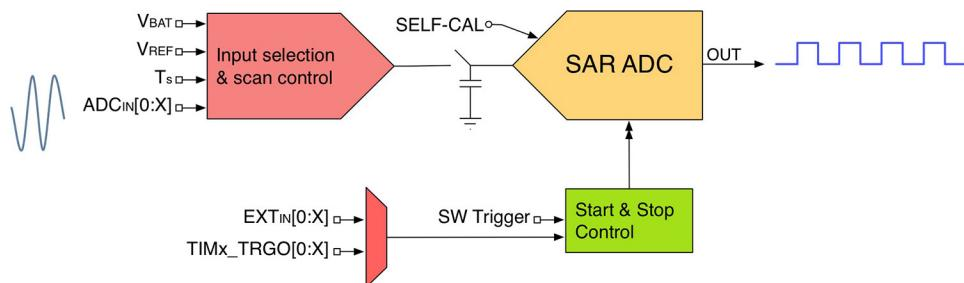
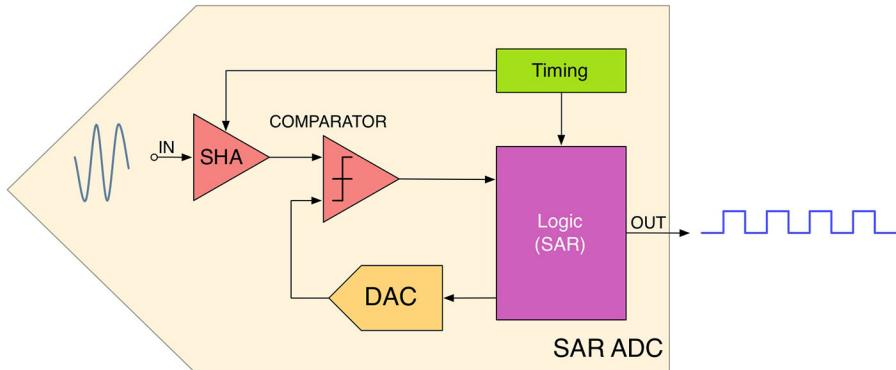
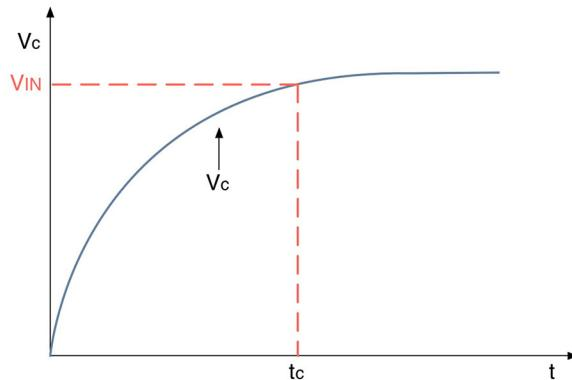

Figure 12.1: The simplified structure of an ADC
Figure 12.2: The internal structure of a SAR ADC
Figure 12.4: The effect of the ADC resistance on the analog signal source
Figure 12.1 schematizes the structure of the ADC2. An *input selection and scan control unit* performs the selection of the input source to the ADC. Depending on the conversion mode (single, scan or continuous mode), this unit automatically switches among the input channels, so that everyone can be sampled periodically. The output from this unit feeds the ADC.
Figure 12.1 also shows another important part of the ADC: the *start and stop control* unit. Its role is to control the A/D conversion process, and it can be triggered by software or by a variable number of input sources. Moreover, it is internally connected to the TRGO line of some timers so that time-driven conversions can be automatically performed in DMA mode. We will analyze this important
2Figure 12.1 is a simplified representation of the ADC. Since the ADC implementation can differ a lot among the several STM32 families, here we are going to consider a simplified view that clearly describes how the ADC unit is designed.
**Figure 12.2** shows the main blocks forming the SAR ADC unit shown in **Figure 12.1**. The input signal goes through the SHA unit. As you can see in **Figure 12.1**, a switch and a capacitor are in series with the ADC input. That part represents the *Sample-and-Hold* (SHA) unit shown in **Figure 12.2**, which is a feature available in all ADCs. This unit plays the important role to keep the input signal constant during the conversion cycle. Thanks to an internal timing unit, which is regulated by a configurable clock as we will see later, the SAR constantly connects/disconnects the input source by closing/opening the “switch” in **Figure 12.1**. To keep the voltage level of the input constant, the SHA is implemented with a network of capacitors: this ensure that source signal is kept at a certain level during the A/D conversion, which is a procedure that requires a given amount of time, depending on the conversion frequency chosen.
The charging of the internal capacitor network (that we indicate with  $C_{ADC}$ ) is controlled by the switch in **Figure 12.1** having a resistance equal to  $R_{ADC}$ . With the addition of source resistance (that is,  $R_{TOT} = R_{ADC} + R_{IN}$ ), the time required to fully charge the hold capacitor increases. **Figure 12.4** shows the analog signal source resistance effect. The effective charging of  $C_{ADC}$  is governed by  $R_{TOT}$ , so the charging time constant becomes  $t_C = (R_{ADC} + R_{IN}) \times C_{ADC}$ . If the sampling time is less than the time required to fully charge the  $C_{ADC}$  through  $R_{TOT}$  ( $t_S < t_C$ ), the digital value converted by the ADC is less than the actual value. In general, it is necessary to wait a multiple of  $t_C$  to achieve a reasonable accuracy.
- **ClockPrescaler:** defines the speed of the clock (ADCCLK) for the analog circuitry part of ADC. In the previous paragraph we have seen that the ADC has an internal timing unit that controls the switching frequency of the input switch (see **Figure 12.2**). The ADCCLK establishes the speed of this timing unit, and it impacts on the number of samples per seconds, because it defines the amount of time used by each conversion cycle. This clock is generated from the peripheral clock divided by a programmable prescaler that allows the ADC to work at  $f_{PCLK}/2, /4, /6$  or  $/8$  (refer to the datasheets of the specific MCU for the maximum values of ADCCLK and its prescaler). In some STM32 MCUs the ADCCLK can also be derived from the HSI oscillator. The value of this field affects the ADCCLK speed of all ADCs implemented in the MCU.